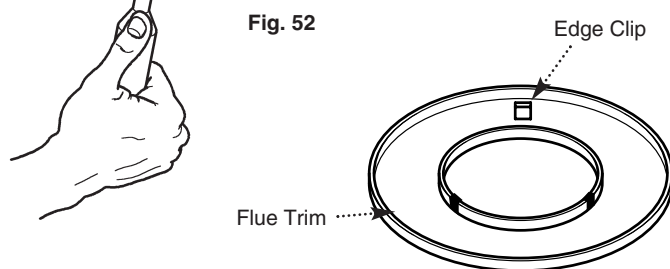

Fig. 52a
b) Take the three edge clips from the kit and fit them equi-spaced onto the inner flange of the trim (Fig. 52a).